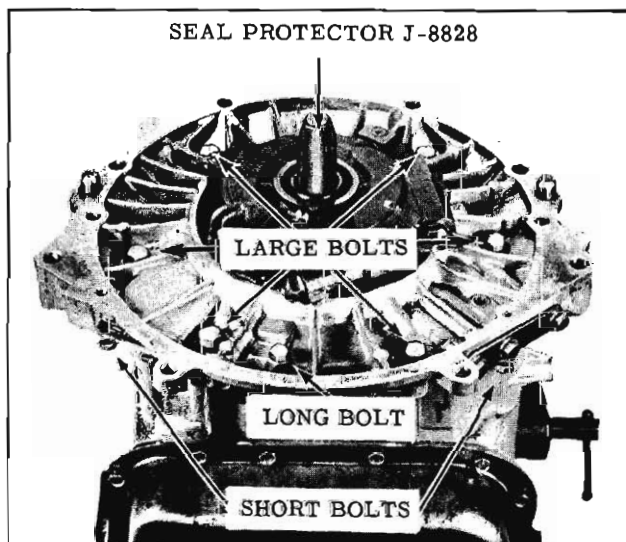

Fig. 6-114 Seal Protector and Bolt Location
19. Install Seal Protector Tool J-8828 over input shaft. (Fig. 6-114)
21. Install six large case cover to case attaching bolts with copper washers and torque 30 to 35 ft. lbs. Install the three small attaching bolts as shown in Fig. 6-114 and torque 15 to 18 ft.